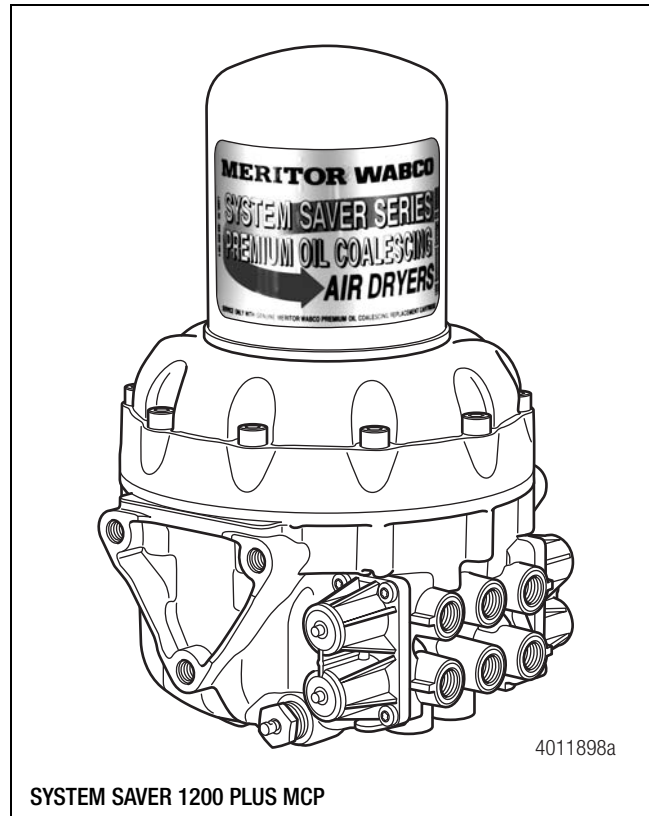

Figure 1.4
**System Saver 1200 Plus MCP:** Has the governor and pressure protection elements integrated into the body of the air dryer. Also has an integrated purge tank. Figure 1.4.